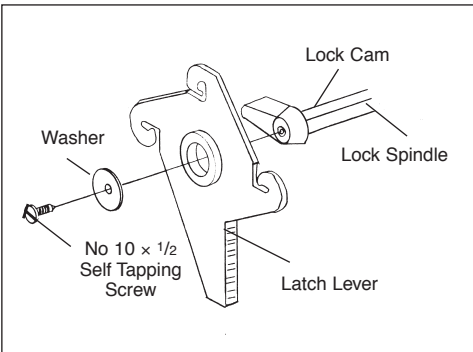

**FIG 4**
Remove the retaining pin from the Spring Anchor Bush with assistance of spanner on pulley (see fig. 4). You now have tension on the door. Take out 2 transit screws and spacer from each upper weather strip. Open/close door through full travel to test runner position. If necessary make final adjustment to runners for correct operation. With door open insert 5 screws per side (No.8 x 1") down each side runner.
2. Wearing safety glasses, close door and grip R/H blue pulley with 22mm A/F spanner and by turning upwards, align holes in spring anchor bush and spring shaft. Insert retaining pin (4mm dia. x 50mm split pin or similar) fully into this hole as shown, then remove the spanner. (See Fig. 4)